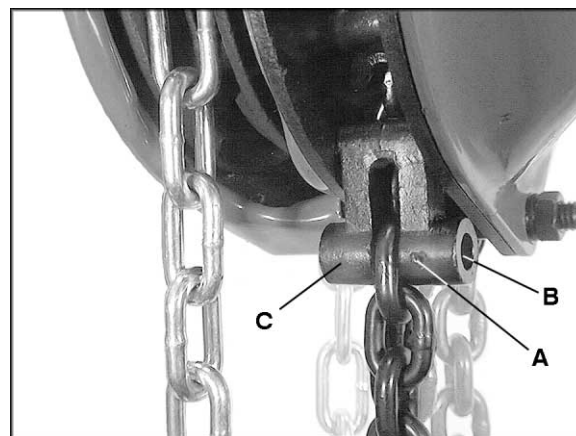

Figure 11
4. Remove the split pin (A, Figure 11) and the stopper pin (B, Figure 11) on the chain stopper (C, Figure 11).